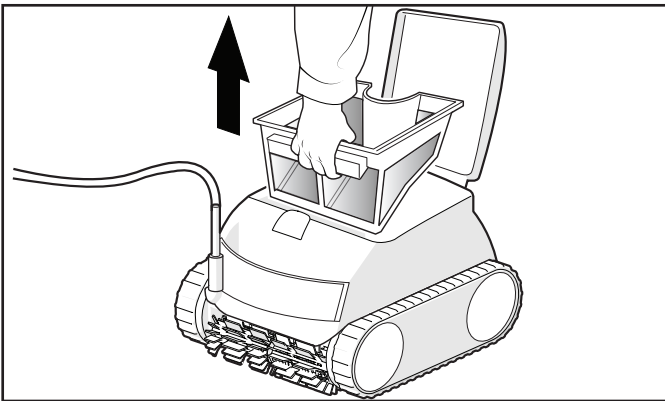

Figure 12. Remove Filter Canister
3. Ensure the unit sinks to the bottom of the pool and does not float (Figure 12).